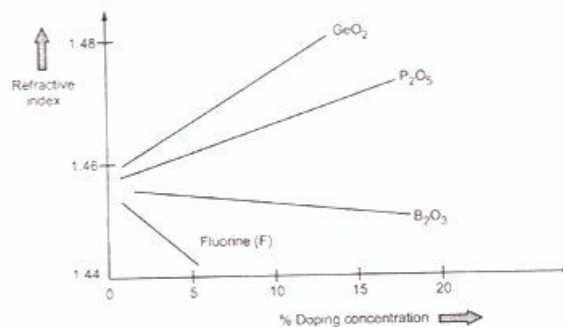

Fig. 1.8.3 Variation of refractive index with doping concentration
- Glass is made by fusing mixtures of metal oxides having refractive index of 1.458 at 850 nm. For changing the refractive index different oxides such as  $\text{B}_2\text{O}_3$ ,  $\text{GeO}_2$  and  $\text{P}_2\text{O}_5$  are added as dopant. Fig. 1.8.3 shows variation of refractive index with doping concentration.